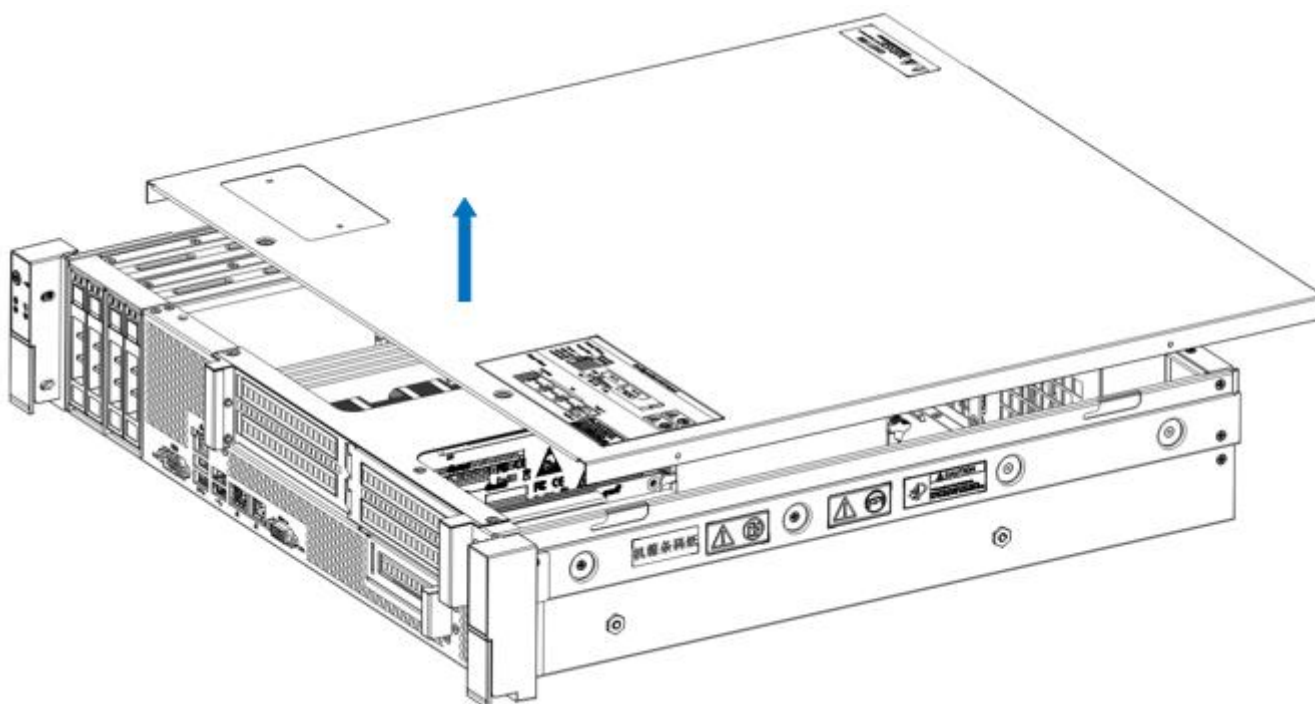

Figure 4.2
- ②Take out the upper cover, as shown in Figure 4.2: